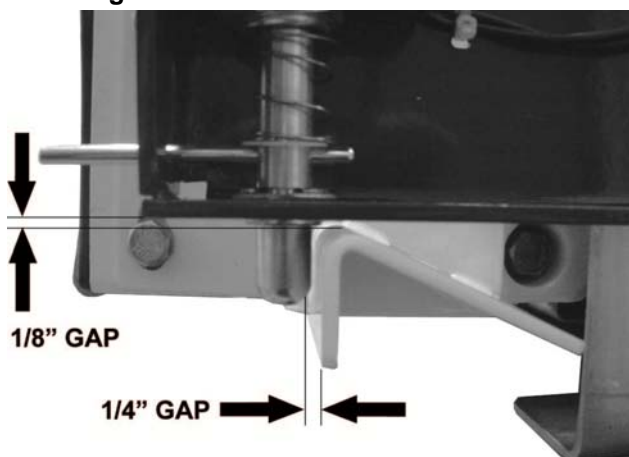

FIGURE 4-43A: STRIKER PLATE/STOW-LOCK ADJUSTMENT
- a. Adjust Stow-Lock to 1/8" gap at top of Striker Plate and 1/4" gap between Stow Lock and front edge of Striker Plate as shown in **Figure 4-43A**.